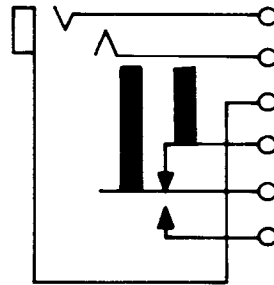

Fig. 27—499A Jack
**2.22 499A:** This unit-type jack (Fig. 27) is designed for strip-type mounting and is used with the 310 or similar-type plugs. This jack is furnished only on orders for jack mountings. The 499A jack will mount on 116, 136, 137, 180, 250A or similar-type jack mountings having  $\frac{5}{8}$ -inch or greater mounting centers. The contact springs are equipped with contacts of No. 2 metal.